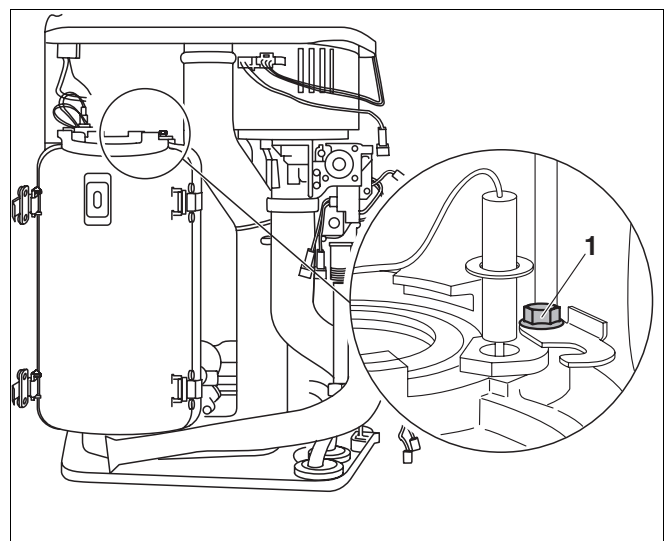

Fig. 84 Replacing the ionisation electrode
- Loosen screw (fig. 84, item 1) by a half-turn and slide bar to remove.